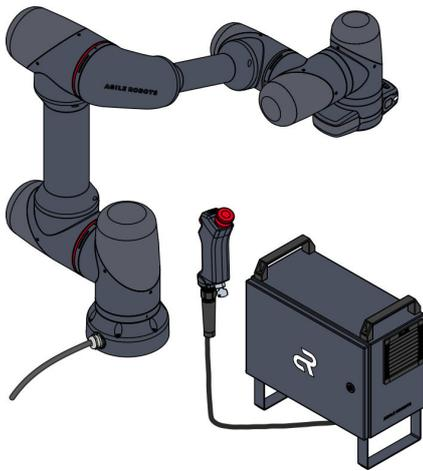

Fig. 91 Overview of the robot and components
01. Wipe the outer surfaces of the robot and its components with a soft cloth and warm water Fig. 91. In particular, keep the areas at the axis transitions free of dirt.